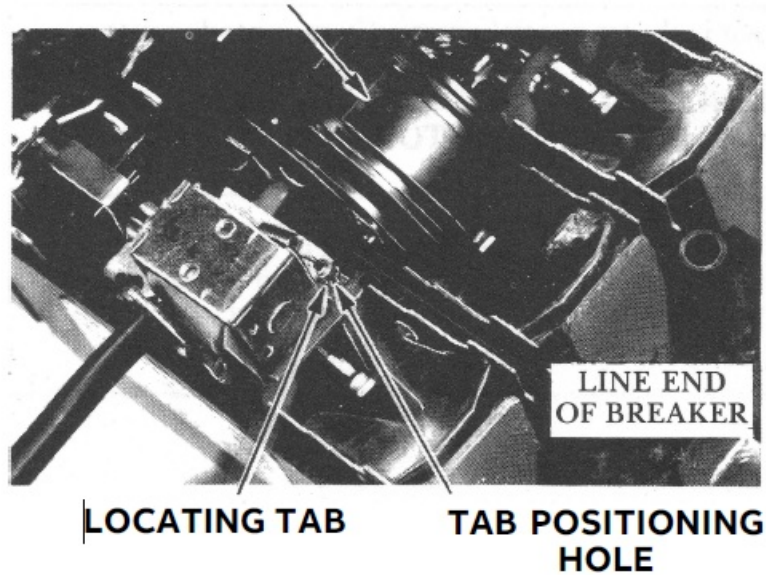

Figure 7.
- Move the handle toward the line end of the breaker to facilitate assembly. Be sure locating tab is plugged into positioning hole in base. (See Figure 7.)